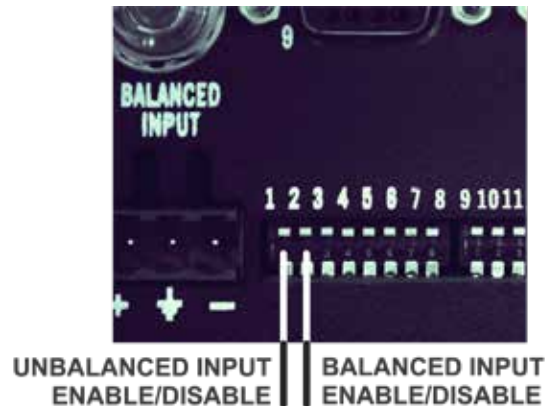

Figure 3.5 – DIP Switch Locations for Input Connector Enable/Disable
When these two DIP switches are placed in the UP position (factory default), the input connectors are enabled. When the DIP switches are placed in the DOWN position, the input connectors are disabled. See **Figure 3.5** for DIP switch locations.
3. Open the access door on the back of the amplifier and locate the fuse and AC inlet panel near the bottom of the amplifier. Locate the power block, which is mounted behind the fuse and AC inlet panel (see **Figure 3.5**).